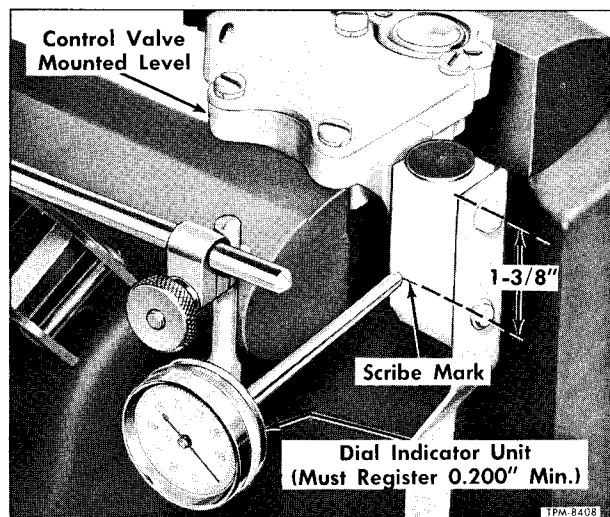
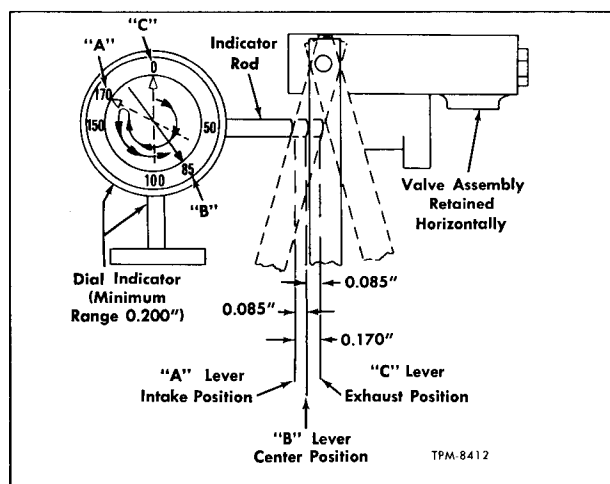

Figure 28—Dial Indicator Properly Installed
Figure 29—Locating Valve Overtravel Lever Center Position
- Referring to figure 28, scribe a line 1-3/8 inch from plug end of overtravel lever control body.
- Place valve assembly in vise as shown in figure 28.
- Locate dial indicator in position as shown in figure 28. Move overtravel lever to full air exhaust position - TOP OF DELAY PISTON FLUSH WITH TOP OF BORE - without overtraveling (position "C," fig. 29). Relocate indicator push rod to just contact 1-3/8 inch mark on control body and reset indicator dial to zero (0) at this point (position "C," fig. 29).
- Move overtravel lever to full air intake position without overtraveling (position "A," fig. 29) (delay piston at bottom of bore). Take indicator reading which may vary from 0.160" to 0.190".
- Divide the total travel dimension by two (example: $0.170" \div 2 = 0.085"$), then move overtravel lever back this amount (0.085") to the center (position "B," fig. 29).
- IMPORTANT:** Without disturbing lever center position, reset indicator dial to zero (0), which actually is 0.100" on indicator of type registering 0.100" for each revolution of indicator needle, then proceed with valve lever gap adjustments following: